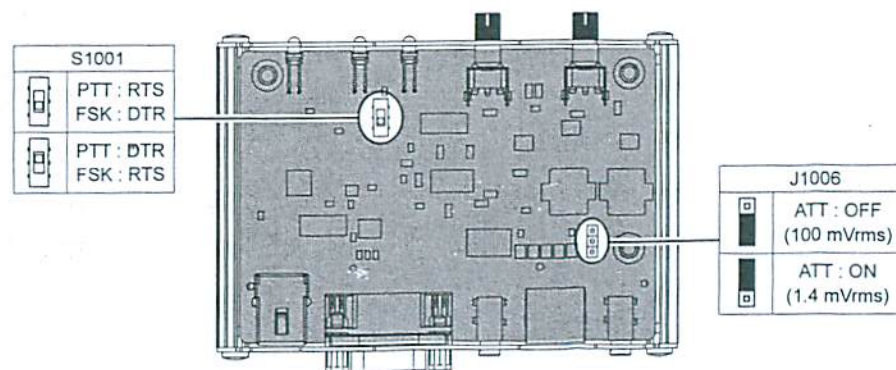

Figure 2
3. Refer to Figure 2 for the location of switch (S1001) and jumper (J1006).
5. Replace the top case, using the 4 screws removed in step (2) above.